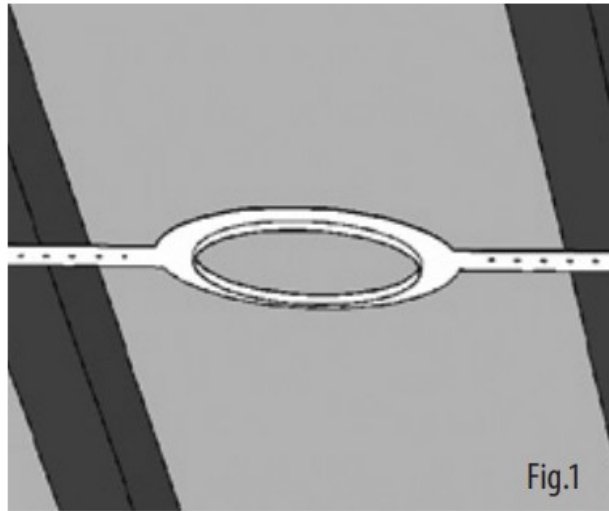

Fig.1
1. Nail or screw the plaster ring to the joists. (Fig.1)